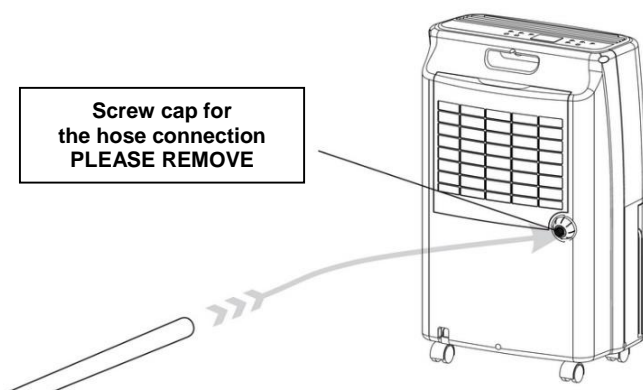

Fig. 1
- 3.2. Loosen the screw cap on the rear right side of the dehumidifier and keep it in a safe place (See Fig. 1).